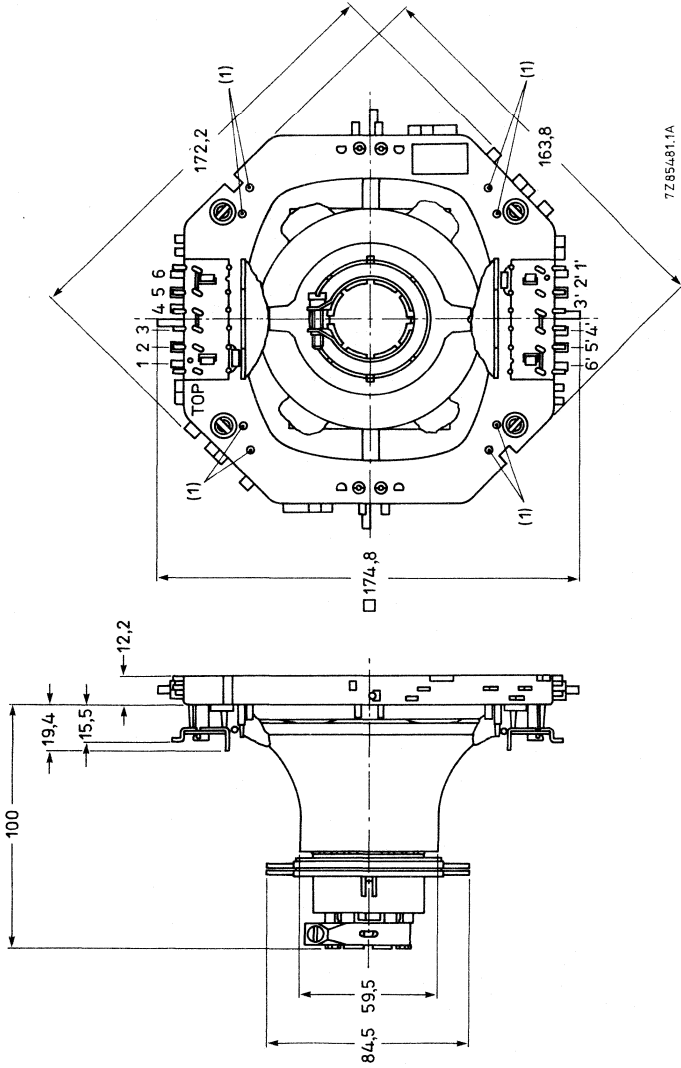
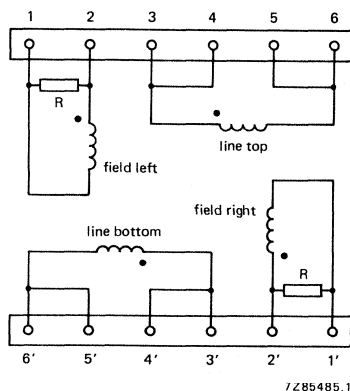

Fig. 1 Deflection unit AT1039/03.
Fig. 2 Diagram of line and field coils; R = 270 Ω . The beginning of the windings is indicated with●.
If a further improvement of raster geometry is required use can be made of correction magnets*, which must be fitted to mounting posts (1). The unit has solder pins for connection. The pin numbering in Fig. 1 corresponds to that in Fig. 2.